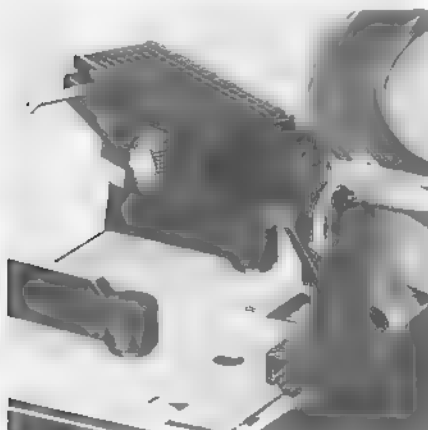

Fig. 11
Select the appropriate turntable speed ②, set the record size selector ⑦ to 7", 10" or 12", depending on the size of the record you want to play, and unlock the tonearm (Fig. 11)
**Note:** After a single record has played, or after the last record in a stack has played, the tonearm will return automatically to its rest and the motor will shut off. It is advisable then to lock the tonearm on its rest (Fig. 11)